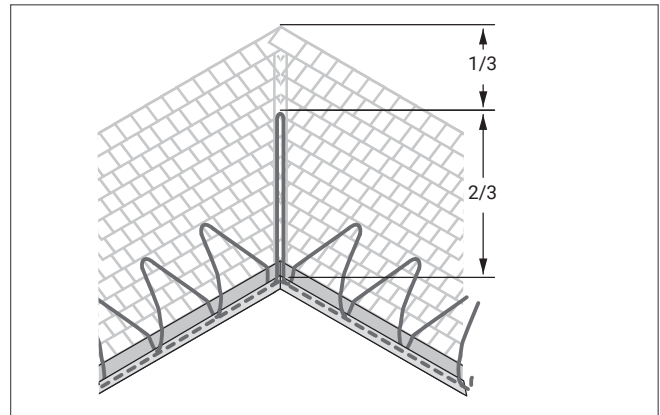

Figure 8. Valleys
- Trace two-thirds of the way up each valley with a double run of heating cable as shown in Figure 8.